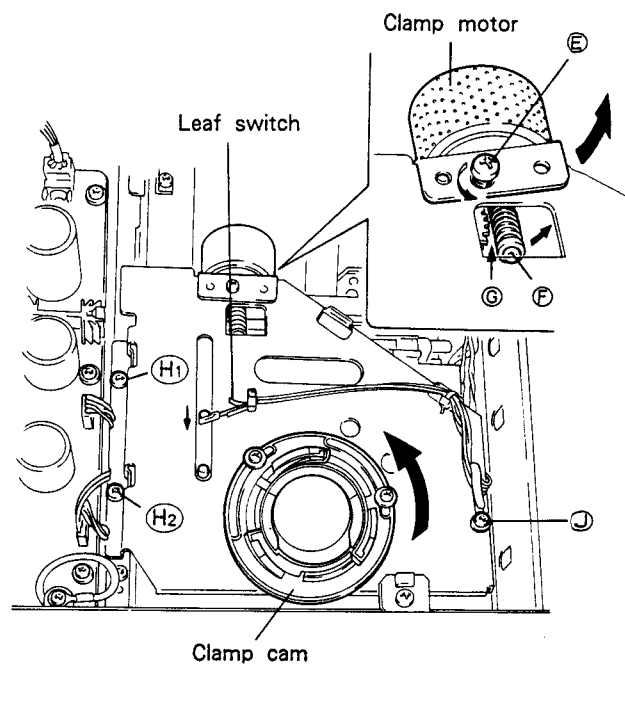

Fig. 2-2.
1. Loosen the screw (E) fixing the clamp motor.
2. Taking care not to drop the iron ball of the tip of the gear section of the clamp motor as shown in Fig. 2-2, keep the engaging section (G) of gear apart from the unit by tilting the clamp motor in the direction of arrow.
4. Mount the clamp motor again. (Drive the screw (E).)
2. Remove by turning over the clamp mechanism assembly. (Screws $\textcircled{H}_1$, $\textcircled{H}_2$ and $\textcircled{J}$, Refer to Fig. 2-2.)